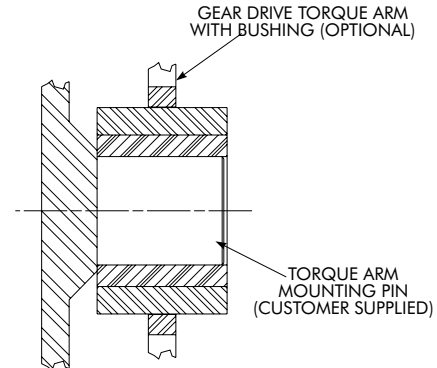

Figure 2.2a Insertion of Torque Arm Pins in Torque Arm
1. Insert torque arm mounting pins in torque arm on speed reducer; reference Figure 2.2a.